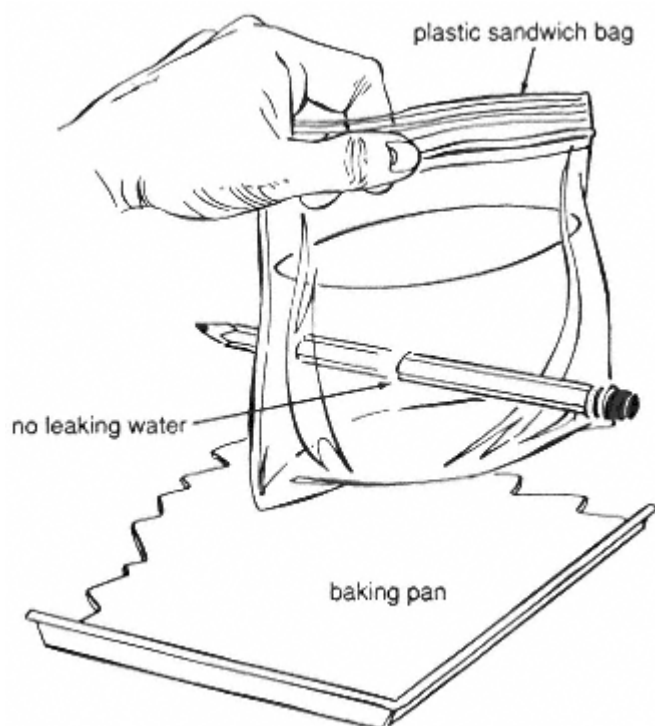

Figure 23.2
11. As before, leave the pencil in place and observe any leakage around the pencil (see Figure 23.2).